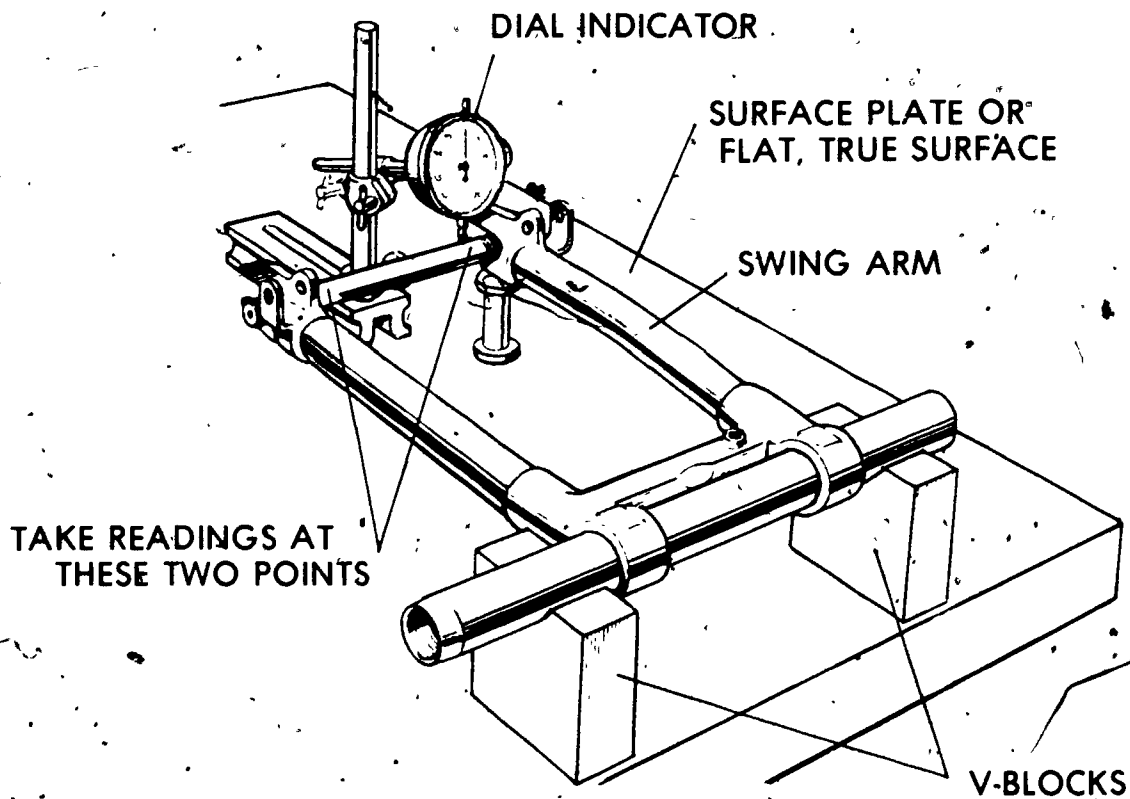

Figure 1
J. Mount swing arm in V-blocks and position on surface plate (Figure 1)
K. Check the rear swing arm for alignment by mounting dial indicator on surface plate and take a reading at both sides of the swing arm (Figure 1)